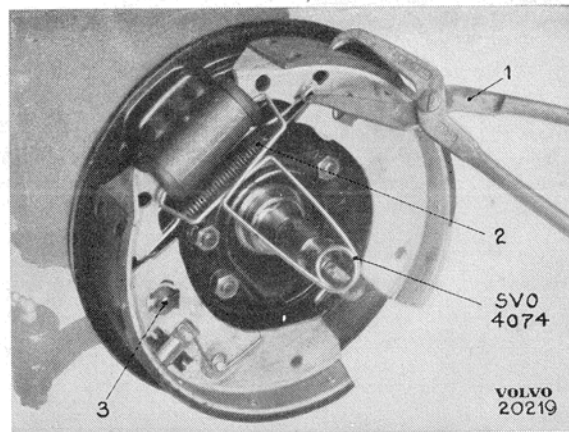
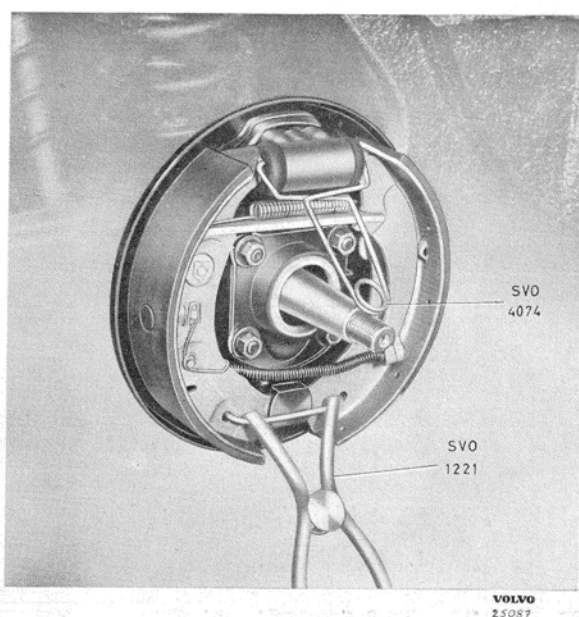

Fig. 10. Removing return spring.
Fig. 11. Removing lower spring.
3. Place clamp SVO 4074 on wheel unit cylinder so that the plungers cannot be pressed outwards. Remove lower spring with help of brake pliers SVO 1221 (see Fig. 11). Unhook return spring with help of pliers or key (Fig. 10). Remove locking washer and other washers from adjusting cam pivot pin. Lift off the shoes.
3. Place clamp SVO 4074 on wheel unit cylinder so that the plungers cannot be pressed outwards. Remove the lower spring with the help of brake pliers SVO 1221 (see Fig. 11). Remove locking washer and other washers from front shoe. Then turn the shoe outwards so that the handbrake link can be removed. Remove brake shoe and return spring. Disconnect handbrake cable and remove rear shoe.